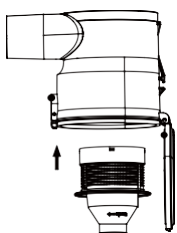
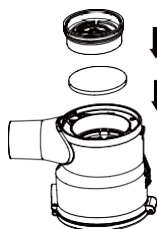

Fig.10
Fig.12
5. Put the cyclone (Fig.10) and the filters back into the dust cup (Fig.12)